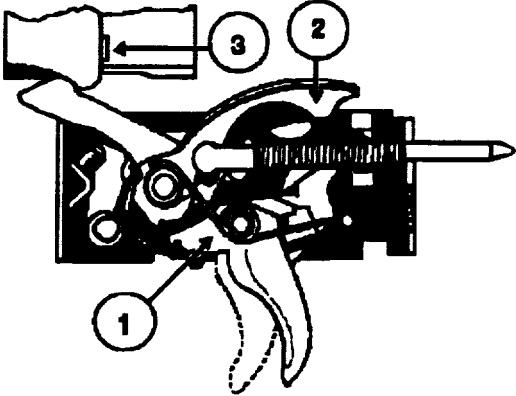

Figure 2-4. Trigger Mechanism
d. Firing. When the trigger pivots on its axle, the back of the sear (1), Figure 2-4, rises, causing the front of the sear to lower. This action removes the sear from the notch in the hammer (2), causing the hammer to pivot on its axle. As a result of spring tension, the hammer is allowed to strike the firing pin (3) and ignite the primer of the cartridge,
h. Cocking. As the bolt recoils to the rear, it *rides* the hammer back and down causing the hammer to engage the sear (1), Figure 2-4.